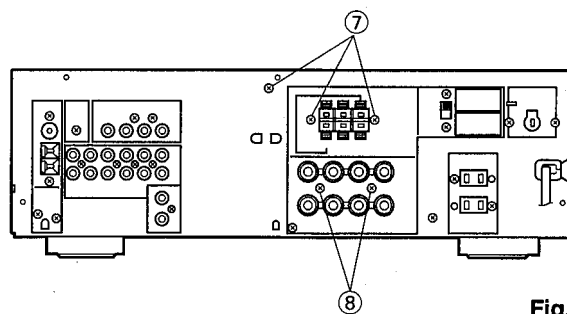

Fig. 4
- Remove 3 screws (⑦) and 2 screws (⑧) in Fig. 4.